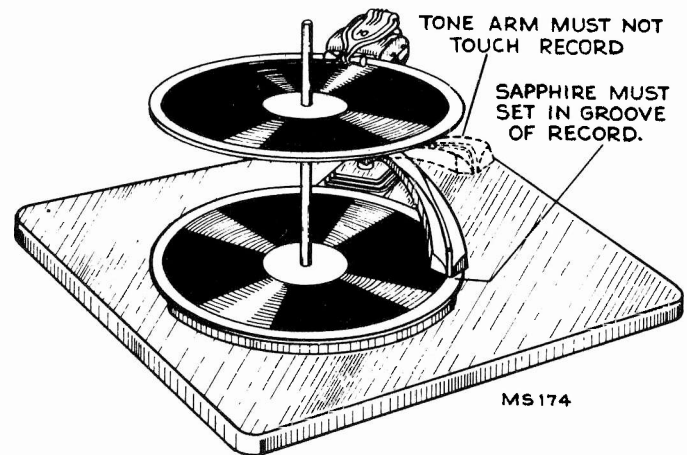
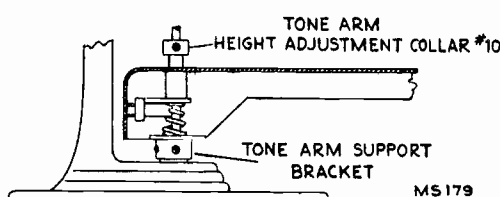

FIG. 5
FIG. 9
The tone arm height should be so adjusted as to permit the sapphire to engage and ride in the grooves of one record placed on the turntable, but at the same time prevent the tone arm from touching the records on the supports while the mechanism is going through cycle, fig. 5.
2. With the pickup near the edge of the record, loosen the set screw (with Bristo Wrench #6), holding collar 10, fig. 9, and moving it up or down on shaft 42A, so as to have the conditions indicated in sketch, fig. 5.